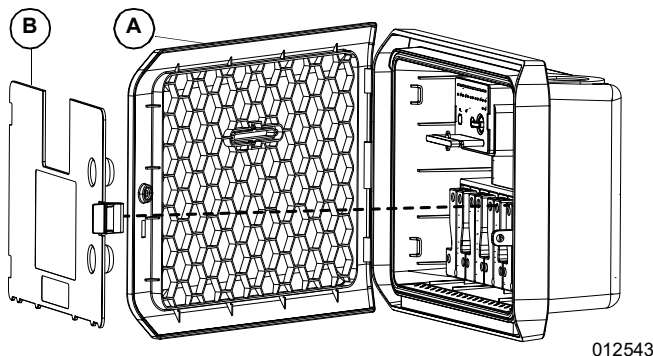

Figure 3-1. Remove Touch-safe Cover
See Figure 3-1. For later steps in installation, access to the internal areas of the PWRmanager will be necessary. Open the lid (A) of the unit and remove the touch-safe cover (B) by prying between the catch and the right-hand wall, and pulling directly outward.